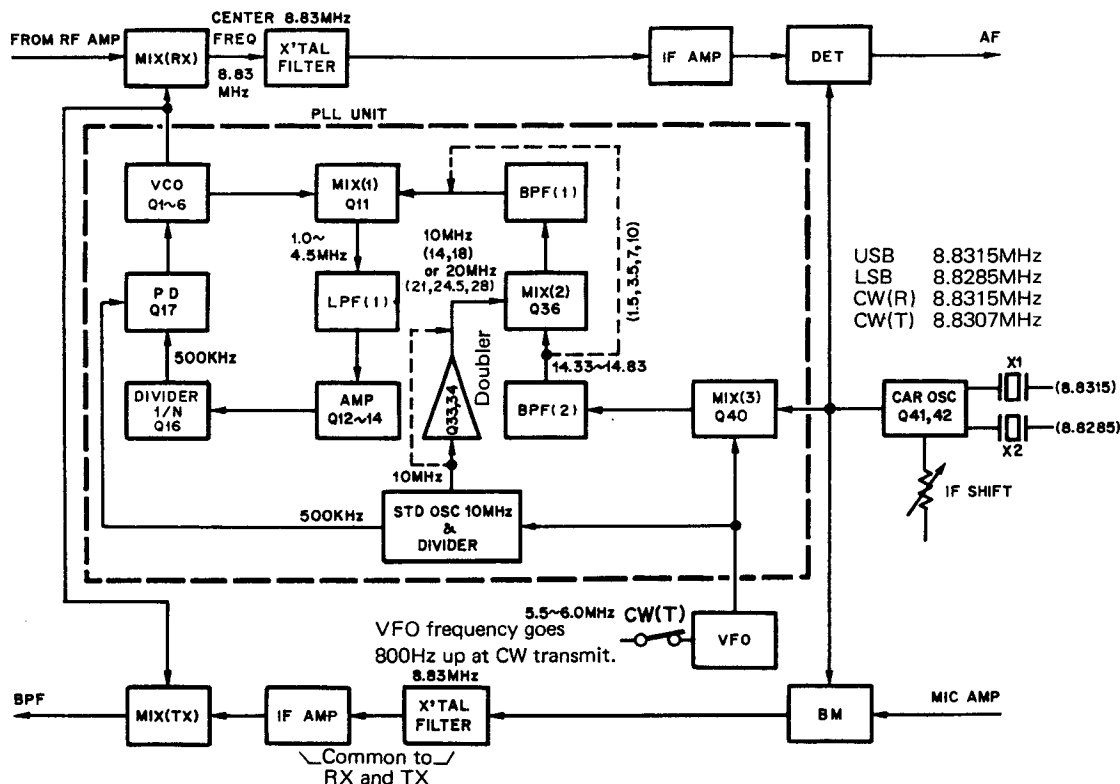
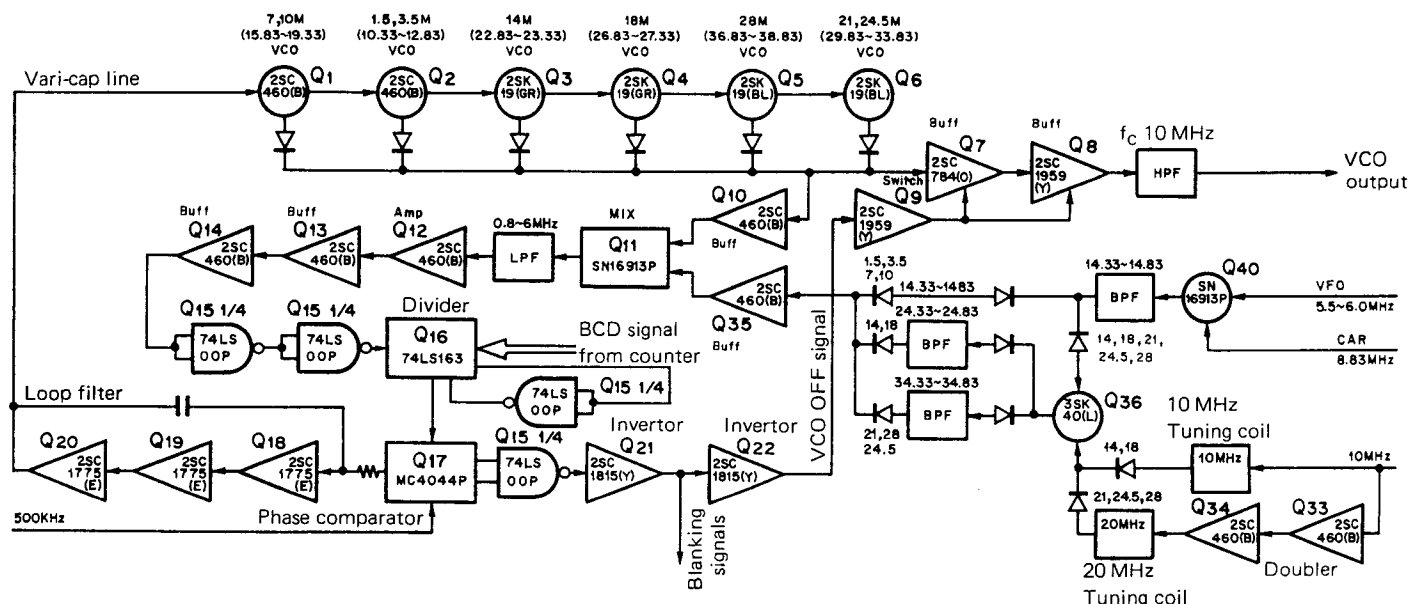

Fig. 1 TS-530 Frequency configuration
Fig. 2 TS-530 PLL circuit configuration
Frequency organization of the PLL circuit is shown in **Fig. 1**, the circuit diagram in **Fig. 2**, and frequency organization in other circuits is summarized in **Table 4**. Please refer to **Fig. 1** when reading the following description of PLL circuit operation. MIX (3), a double balanced mixer, mixes the CAR output with the VFO output. MIX (2), which operates for the 18 MHz band and above, mixes either 10 MHz, in the 14 and 18 MHz bands, or 20 MHz, in the 21, 24.5 and 28 MHz bands, with the output of MIX (3) to generate the appropriate frequency needed for each band, as shown in **Table 4**.
The CAR oscillator consists of a crystal controlled oscillator which uses two crystals : one for LSB and the other for USB and CW . Frequencies generated are shown in **Fig. 1**. The oscillating frequency can be varied by the IF SHIFT control during reception.